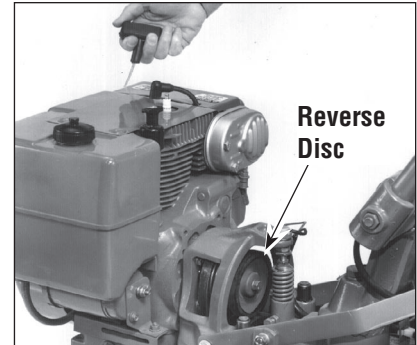

Figure 5-25: Checking Reverse Disc in NEUTRAL.
2. Place Wheels/Tines/PTO Drive Lever in NEUTRAL. Briefly pull out engine recoil start rope while watching reverse disc. The disc should turn, but lower pulley should not (Figure 5-25). If reverse disc turns lower pulley, or if it is located closer than 3/16" to the pulley, reverse adjustment bolt should be adjusted upward (see